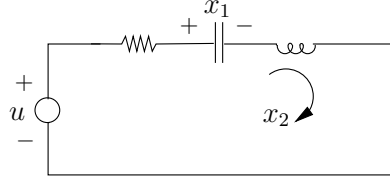

Figure 2.26: State variables.
17. *Another electric circuit example.* Consider the RLC circuit in Figure 2.25. There are two energy storage elements, the inductor and the capacitor. It is natural to take the state variables to be voltage drop across C and current through L : Figure 2.26. Then KVL gives